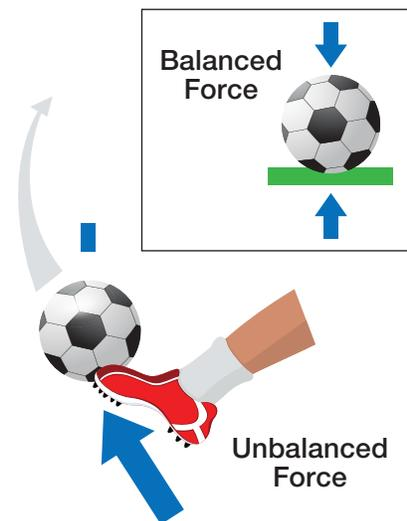

Figure 1. Balanced and unbalanced forces.
**Unbalanced force** refers to motions that are in opposition to each other. The forces on a soccer ball at rest on the playing field are balanced. Give the ball a good kick, and the forces become unbalanced (Fig. 1). Air drag (a force) gradually slows the ball and gravity causes it to bounce on the field. When the ball stops bouncing and rolling, the forces are in balance again. Take the soccer ball into deep space, far away from any star or other significant gravitational field and give it a kick. The kick exerted on the ball is an *unbalanced force*. Once the ball is no longer in contact with the foot, the forces on the ball become balanced again, and the ball will travel in a straight line forever. The forces are balanced when the soccer ball is at rest or when the ball is moving at a constant speed and in a straight line in space. The forces are unbalanced when the ball is accelerating or changing its direction.